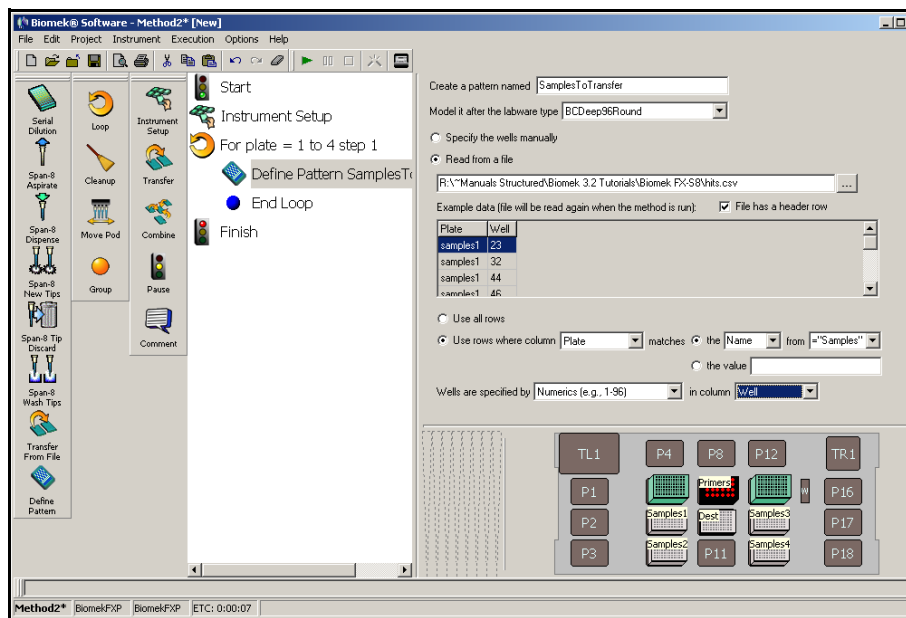

Figure 9-5. Read from file configured
12. From in column, select **Well**. The step configuration should look similar to Figure 9-5.